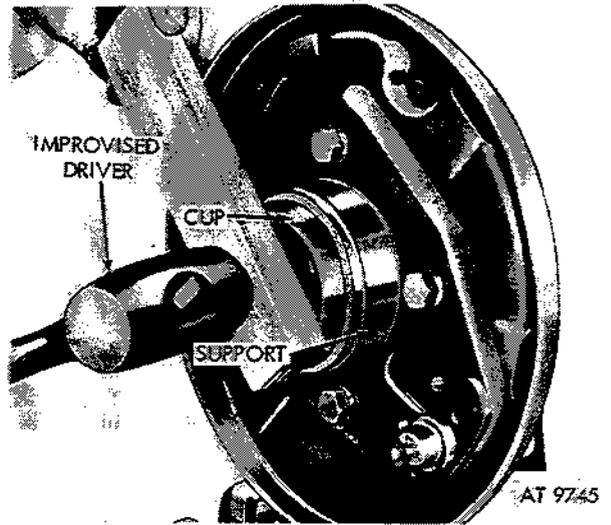
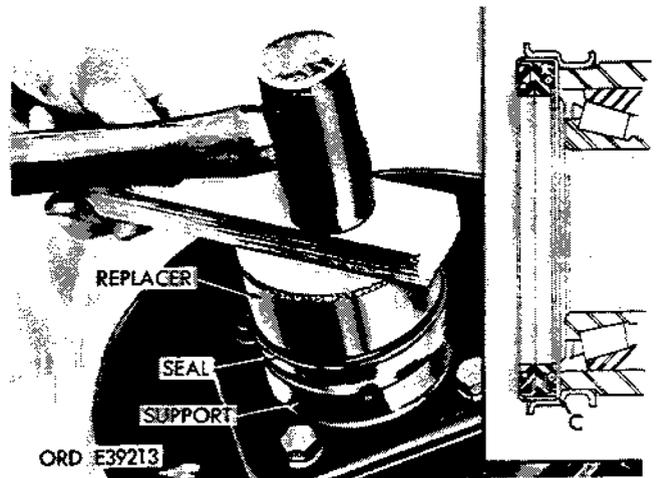

Figure 2-320. Bearing cup in position using improvised driver.
Figure 2-321. Install seal using replacer 5120-795-0152.
b. *Installation.* Pack lips of seal with grease (GAA), and coat sealing surface of support with sealing compound (FSN 8030-656-1426). Install wheel bearing outer seal, cup, and bearing as given in operations (1) through (5) below.
(1) Start bearing cup in support bore and seat in position with improvised driver (fig. 2-320).
(2) Coat entire inside of support bearing bore with one-sixteenth layer of grease (GAA). To prevent rust, coat inside of bore between the bearings with one-sixteenth inch layer of grease (GAA).
(3) Install seal on support using replacer special tool 5120-795-0152 (fig. 2-321).
(5) Seat seal in support using replacer 5120-795-0152 (fig. 2-321).
(6) Install support (para 2-140), drive flange (para 2-139), and spindle (para 2-138).